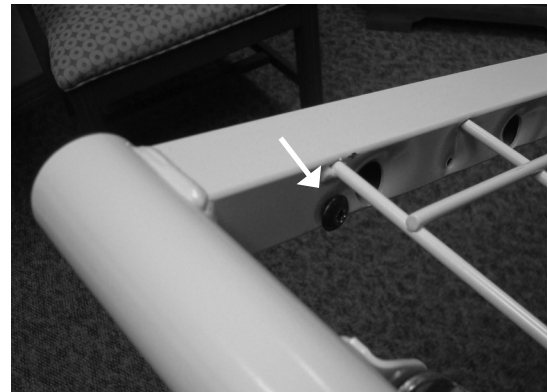

Figure 9
1. Locate the screws at each corner of the inside tube at the foot end of the mattress support platform; one per side (Figure 9).